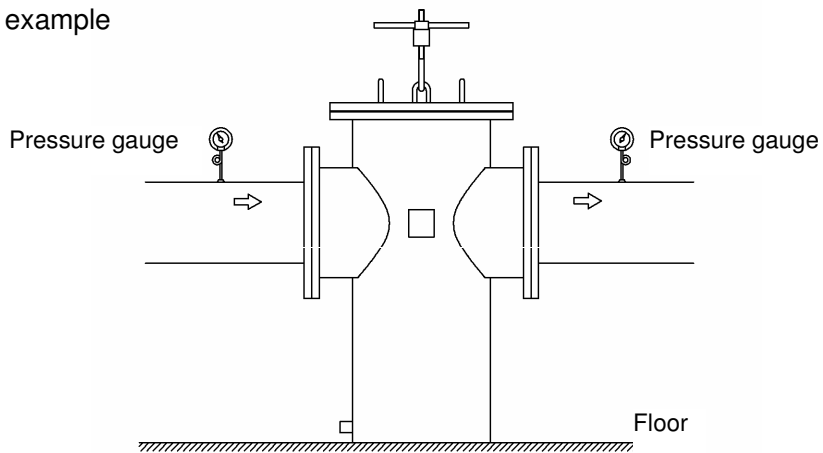

Figure 1: Piping example
- (1) The amount of screen clogging matter can be monitored with pressure gauges installed upstream and downstream of the strainer. (See Figure 1 in 6.1 “Piping example”.)